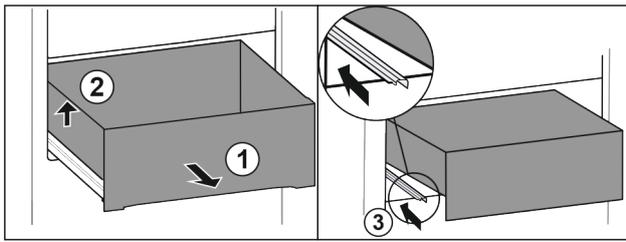

Fig. 31
- ▶ Pull out drawer as far as it will go. Fig. 31 (1)
- ▶ Lift drawer on the left. Fig. 31 (2)
- ▶ Insert left rail. Fig. 31 (3)